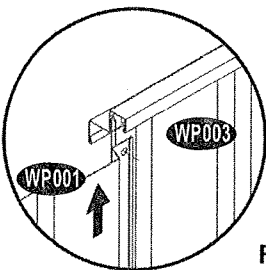

Fig. 3
3. Following the same steps, place wall panels (WP001, WP005, WP002) as numbered. Observe panels overlapping. Secure all with (S1) screws on top and bottom. See fig. 3 & 4.